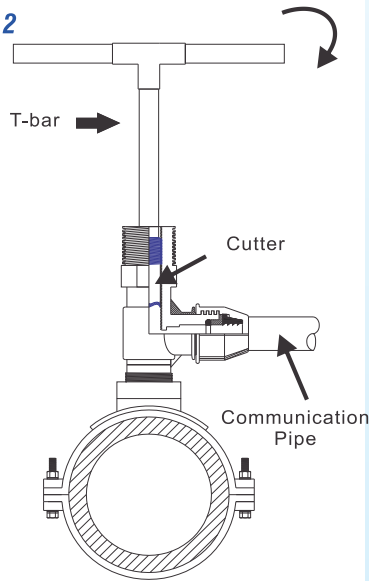

Fig.3
6. Turn the T-bar in clockwise direction until the cutter cut through the pipe wall. (Figure 3)